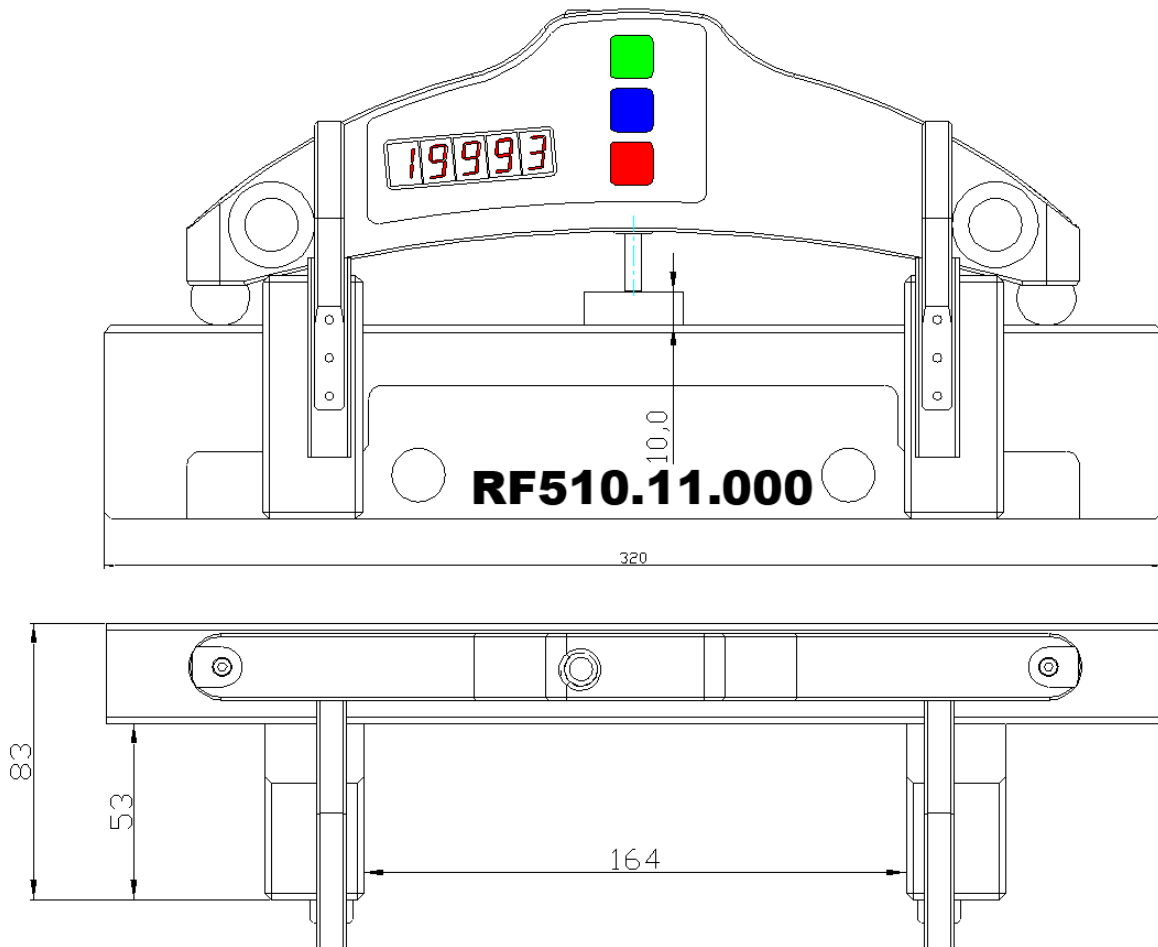

Figure 2
- Calibration plate with the deviation from flatness less than $\pm 0.5 \mu\text{m}$ for a length of 250 mm (or Flat block RF510.11.000, Figure 2).